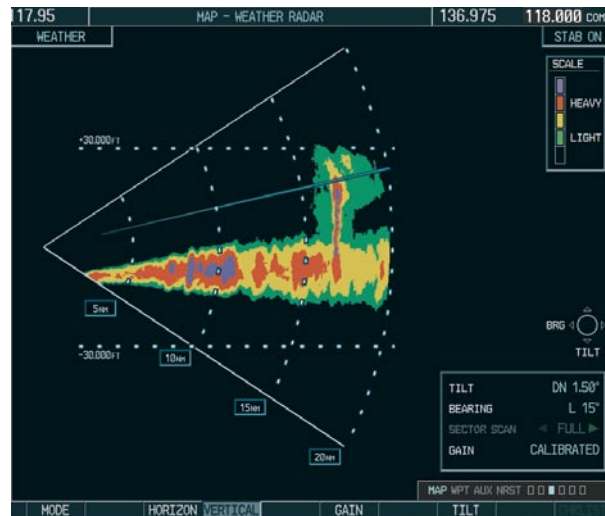

Figure 6-63 Vertical Scan Display
- 4) Select the **VERTICAL** Softkey. A vertical scan of the selected area is now displayed (Figure 6-63).